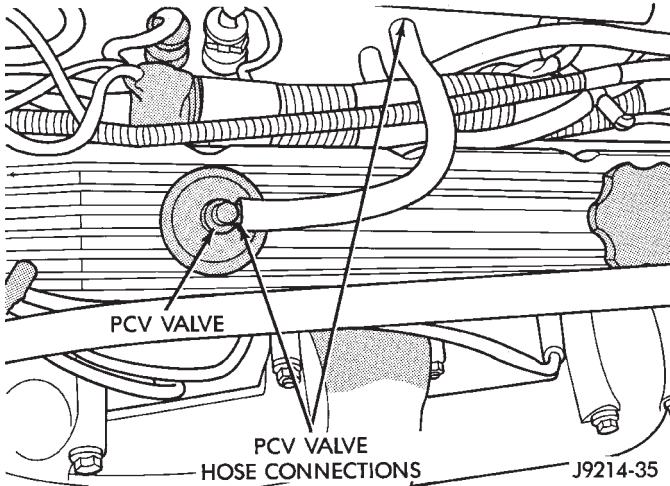

Fig. 26 PCV Valve Hose Connections—5.2L/5.9Engines—Typical
(7) Inspect the system body grounds for loose or dirty connections. Refer to Group 8, Wiring for ground locations.
(8) Verify positive crankcase ventilation (PCV) valve operation. Refer to Group 25, Emission Control System for additional information. Verify PCV valve hose is firmly connected to PCV valve and manifold (Fig. 26).
(9) Inspect fuel tube quick-connect fitting-to-fuel rail connections.
(10) Verify that hose connections to all ports of vacuum fittings on intake manifold are tight and not leaking.
(11) Inspect accelerator cable, transmission throttle cable (if equipped) and cruise control cable con-